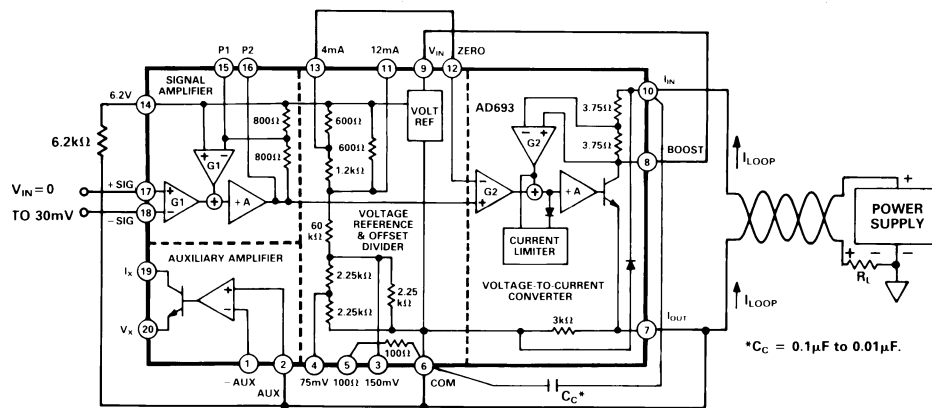

Figure 10. Minimal Connection for 0–30 mV Unipolar Input, 4–20 mA Output
- ⁶The operational voltage (V_{OP}) is the voltage directly across the AD693 (Pin 10 to 6 in two-wire mode, Pin 9 to 6 in local power mode). For example, $V_{OP} = V_S - (I_{LOOP} \times R_L)$ in two-wire mode (refer to Figure 10).
Figure 10 shows the minimal connections for basic operation: 0–30 mV input span, 4–20 mA output span in the two-wire, loop-powered mode. If not used for external excitation, the 6.2 V reference should be loaded by approximately 1 mA (6.2 k Ω to common).